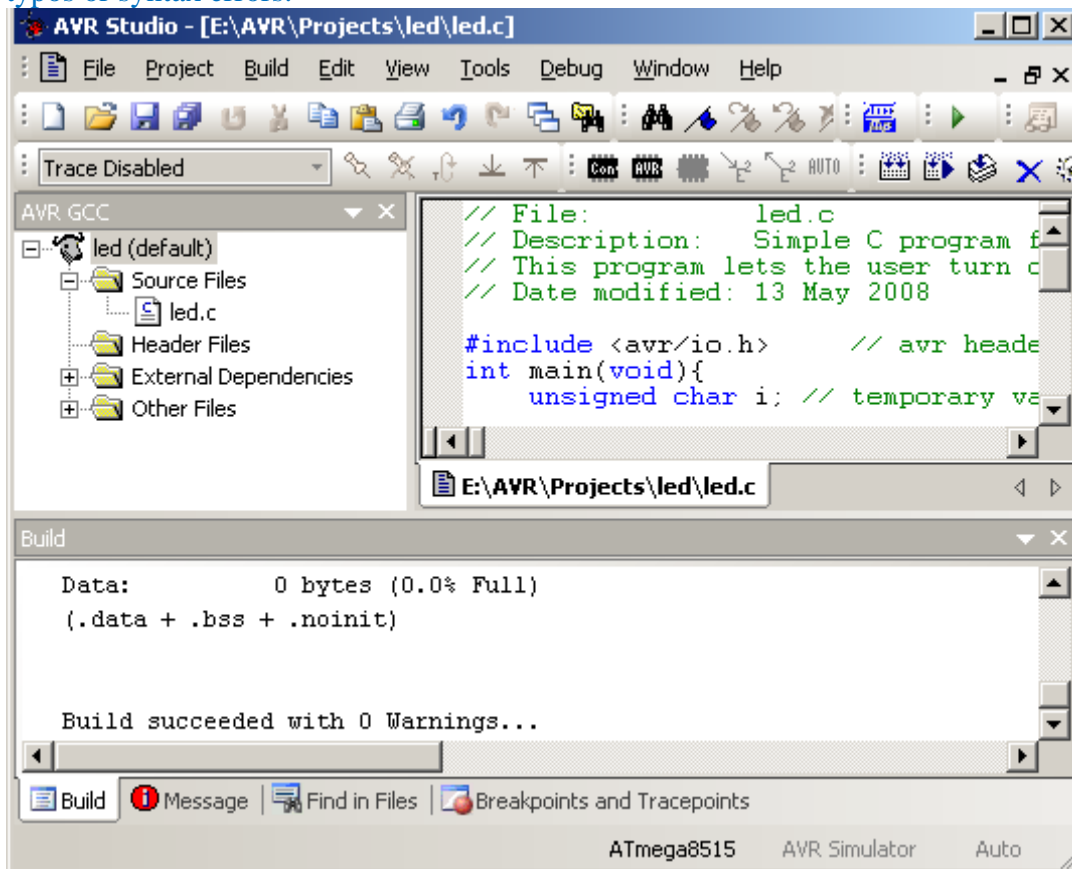

Figure 5: Selecting menu Build | Rebuild All to create HEX file.
- If there is no error message, a file called `led.hex` will be produced (see Figure 5). This file contains the machine code that is ready to be downloaded to the ATMEGA16 microcontroller. The file is stored in sub-folder ‘default’ of your project.